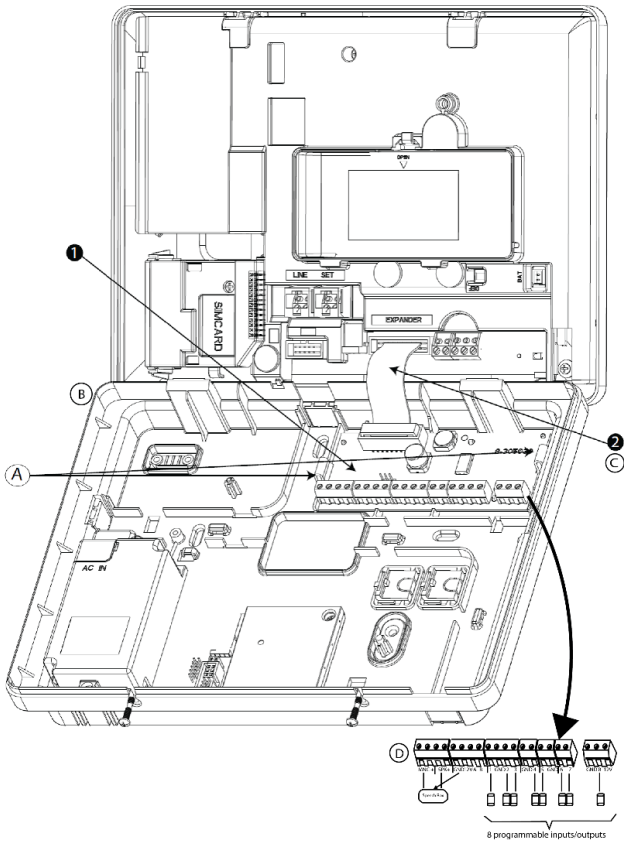

Figure 2.1 – ioXpander-8 Mounting and Wiring
To mount the expander module as shown in Figure 2.1, complete the following steps:
- Press downward on the expander module between the two clips to insert the module into the back panel. See Figure 2.1 ioXpander-8 Mounting and Wiring (A) to identify the clips.